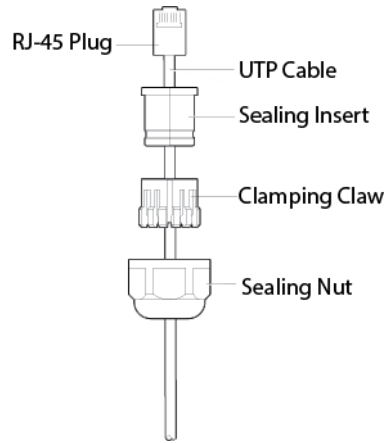

Figure 12. Applying the Sealing Parts to the LAN Cable
3. Pass the LAN cable through the sealing nut, and attach the sealing insert and clamping claw to the cable. Refer to Figure 12.